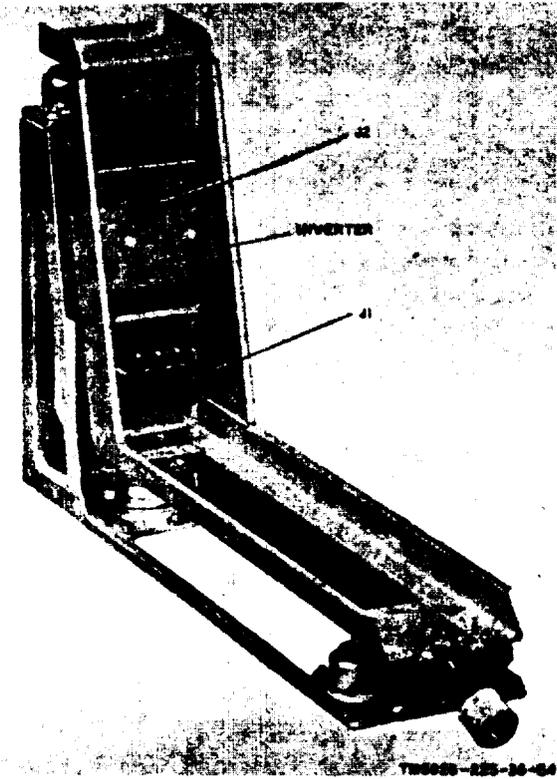

Figure 2-24. Mounting with inverter installed.
The only troubles that can occur in the receiver mount are damage to connectors (J1 and J2 of fig. 2-24) and aircraft wiring connections to the receiver mount. Therefore, the remainder of this section will be devoted to the inverter. All tests on the inverter require connections to Test Set, Direction Finder Set AN/ARM-93 and the source of 27.5-volt dc power used for testing the receiver and control unit. After making certain the test set DC POWER switch is set to OFF, remove the plate at the top of the test set front panel marked INVERTER. Loosen the two retaining screws on the inverter supplied with the test set and remove the inverter.
*a.* Remove the inverter mounted in Mounting MT-3605/ARN-83 (fig. 2-24).